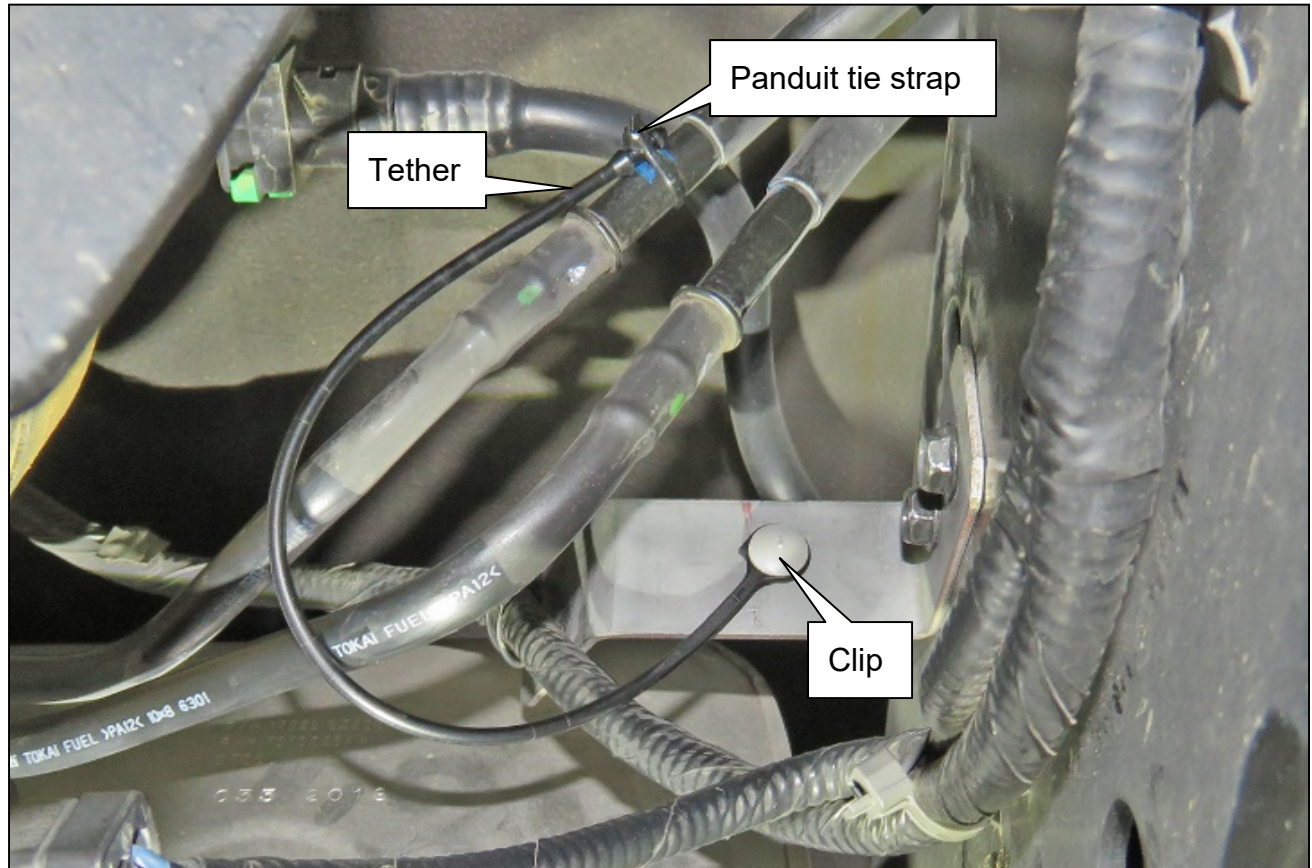

Figure 14
16. Trim the excess material from the Panduit tie strap as shown in Figure 14.